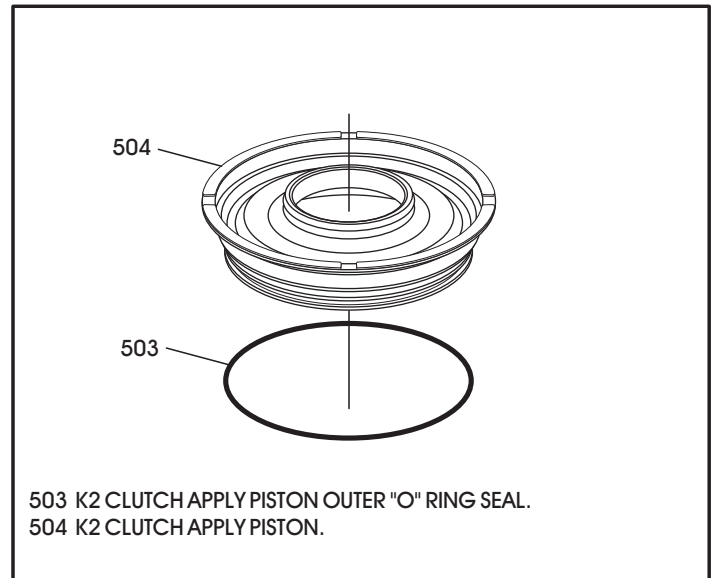

Figure 91
6. Install new outer "O" ring seal onto K2 clutch apply piston, as shown in Figure 91.